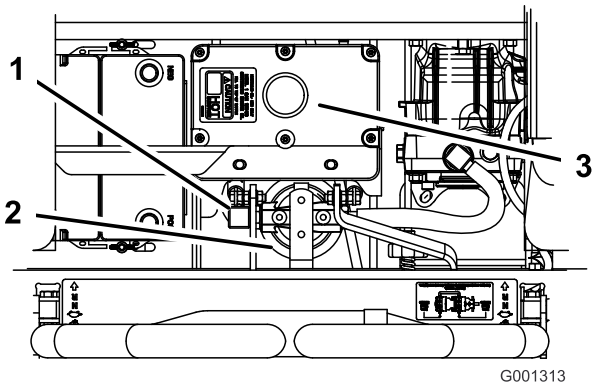

Figure 85
4. Remove the right hydraulic line that comes into the adapter (Figure 85).
6. Install the right hydraulic line to the adapter (Figure 85).
9. Fill the hydraulic tank with hydraulic fluid until the fluid overflows the filter and then turn the fluid filter clockwise until the rubber gasket contacts the filter adapter, then tighten the filter an additional 1/2 turn (Figure 85).